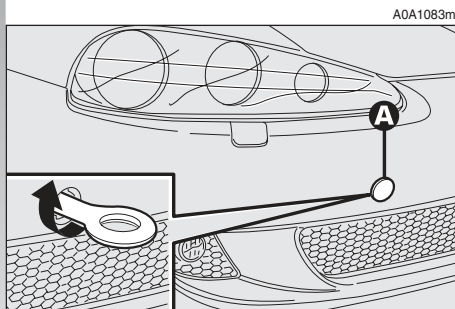
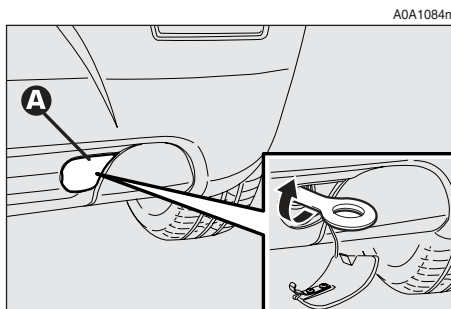

fig. 52
fig. 53
- Remove the cover (A) snap-fitted on the front (fig. 52) or rear bumper (fig. 53). To do this, if using the flat-bladed screwdriver provided, protect the tip with a soft cloth to avoid damaging the car.